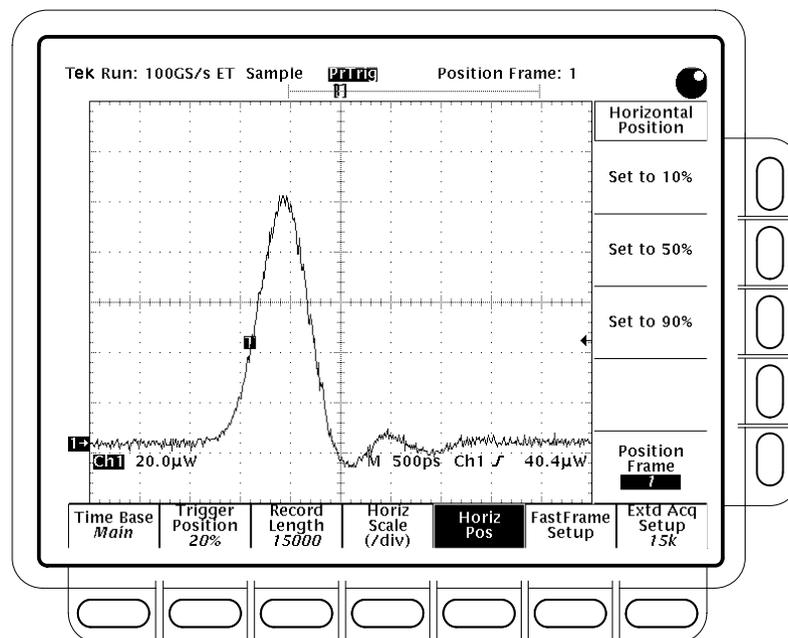

Figure 4–44: Optical impulse of Ch1 input from OA5022 Optical Attenuator (OIG501 / OIG502 fed into optical attenuator in Step 1)
**1. Install the test hookup and preset the instrument controls:****Figure 4–43: Reference-receiver performance-verification set up**
- Connect the optical probe to CH 1 of the oscilloscope under test (see Figure 4–43).
- Adjust the **HORIZONTAL POSITION** to move the 20% trigger point onto the display (see Figure 4–44).
**NOTE.** For the Bessel Thompson (BT) filter to be active, the VERTICAL MENU deskew must be set to zero on all four channels. Also, the ACQUIRE MENU Acquisition Mode must be Sample. If you did the Factory Setup specified in Step 1a, you selected these modes.
- If checking a reference receiver, verify that RR is displayed to the right of the vertical scale factor (see Figure 4–45).
3. Turn on an FFT of the optical impulse [the Impulse Response (or Frequency Response) of the P670xB and oscilloscope system] (Refer to Figure 4–46):
5. Observe the desired response characteristics using the vertical paired cursors (see figures 4–45 and 4–46):
- e. Position the other cursor at the bit rate (the frequency closest to the bit rate) of the mask that is turned on (see Table 4–10 and Figure 4–45).